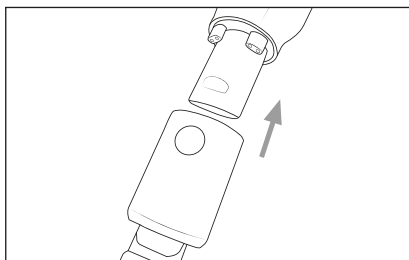

Fig. 11
- ◆ Push the 2-in-1 combination brush ❸ onto the suction pipe ❹ or onto the suction opening of the appliance until it clicks into place (see Fig. 11). Make sure that the locking mechanism is in the correct position.